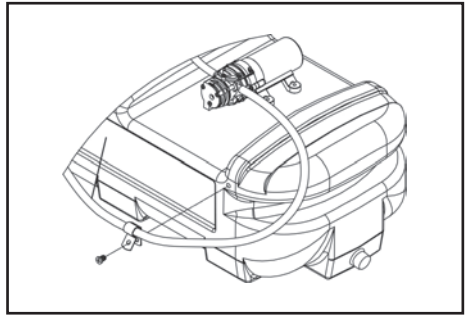

FIG. 5
9.4 ATTACH HOSE GUIDE TO TANK – FIGS. 5 & 6